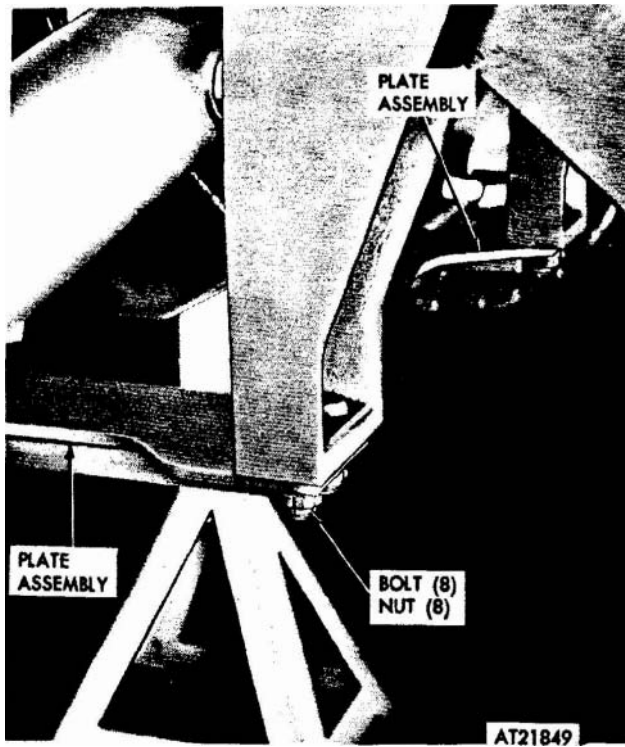

Figure 2-196. Plate assembly, removal and installation.
(17) Remove eight bolts and four nuts securing two plate assemblies to tractor hull and coupler. Remove plate assemblies (fig 2-196).
(22) Position plate assemblies to tractor hull and coupler and secure with eight screws and nuts (fig 2-196).
(23) Install wheel and tire assembly (refer to para 2-156). Remove blocks and lower tractor.
(24) Push tractor toward carrier until coupling hitch assemblies are engaged.